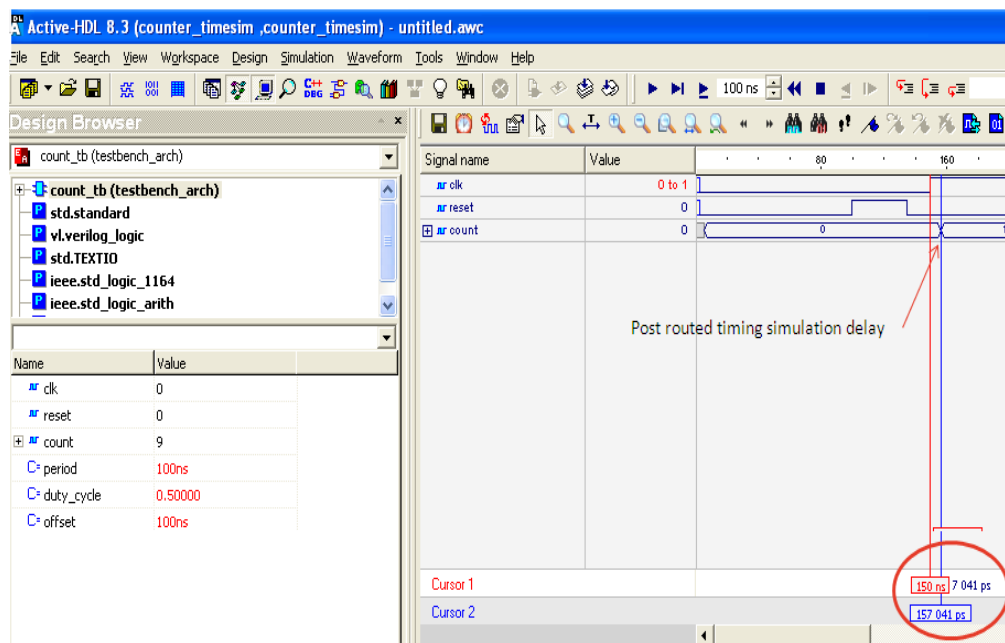

Figure 10-26: Timing Simulation Waveform
- Type the command “run 1000ns” in the console and press enter. The 1-μs simulation waveform will show up in the waveform window. The counter output timing delays with respect to clock positive edge is shown in Figure 10-26.